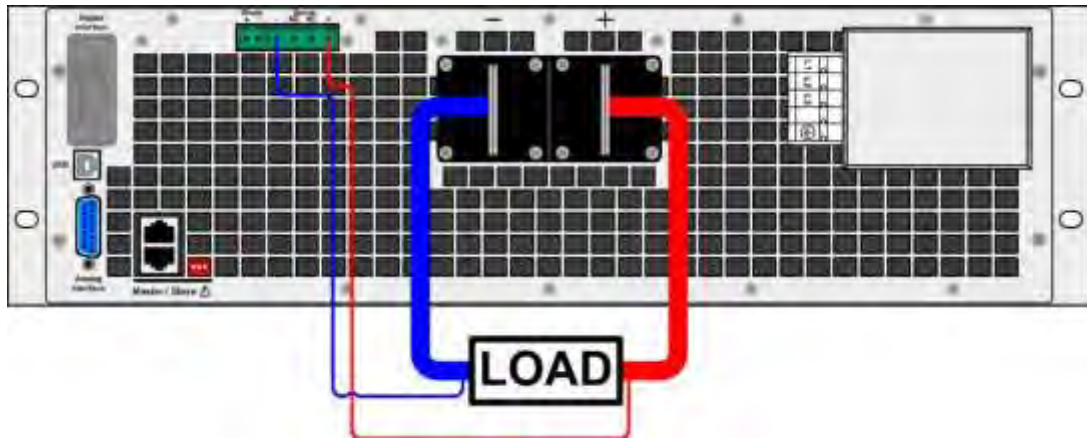

Figure 5-6: External Voltage Sense Connection
- The positive (+) sense cables must be connected to the positive terminal (+) on the load and negative (-) sense to the negative terminal (-) at the load, otherwise the sense input stage of the power supply can be damaged by the reversed polarity. See Figure 5-6 below for proper polarity.